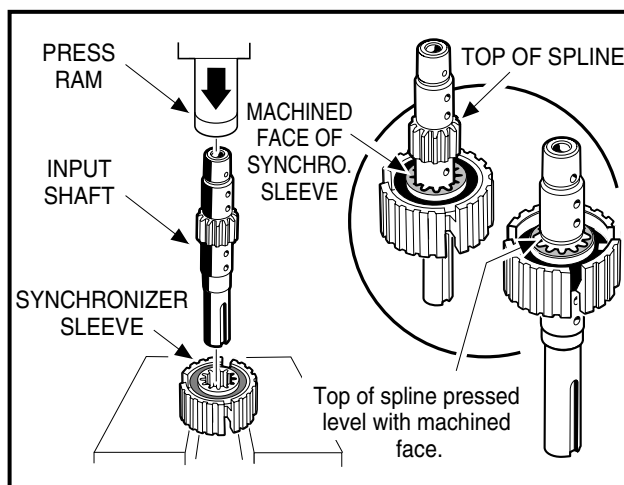

Figure 7-28 Synchronizer Gear Assembly
- 1.1. Press the synchronizer sleeve (50) onto the splines of the input shaft (54) (**Figure 7-16, Page 7-9**). No particular orientation of the sleeve is necessary, but toward the short end of the shaft, the machined circular face surrounding the ends of the internal splines in the sleeve must be flush with the machined lip of the shaft at the ends of the shaft splines (**Figure 7-28, Page 7-16**).
- 2.1. Press the synchronizer sleeve (50) onto the splines of the input shaft (84) (**Figure 7-17, Page 7-10**). No particular orientation of the sleeve is necessary, but toward the short end of the shaft, the machined circular face surrounding the ends of the internal splines in the sleeve must be flush with the machined lip of the shaft at the ends of the shaft splines (**Figure 7-28, Page 7-16**).